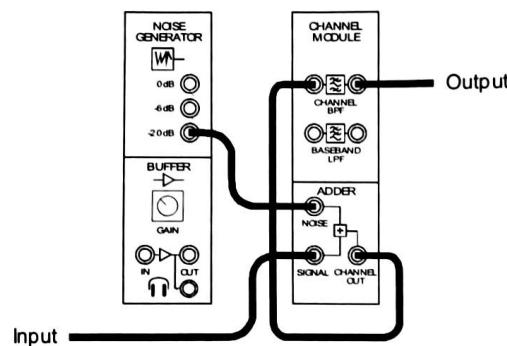

Figure 1
1. Connect the set-up shown in Figure 1 below but don't disconnect any of your existing wiring.